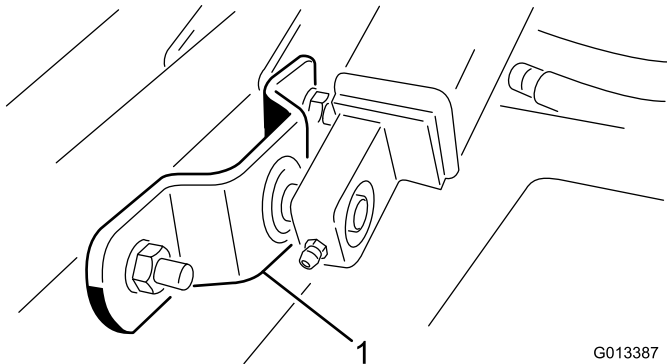

Figure 8
9. Remove the bolts, washers and locknuts securing each lift arm mount to the cutting unit castor arm tubes (Figure 8).